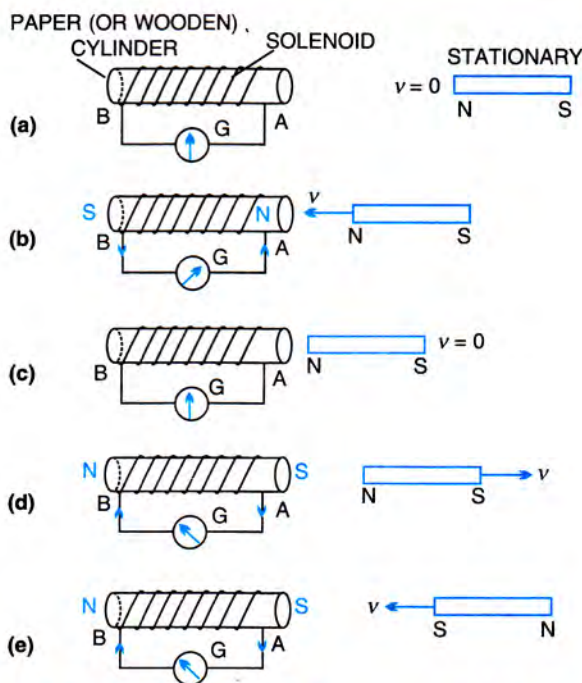

Fig. 10.29 Demonstration of electromagnetic induction
a magnet NS at some distance, along the axis of solenoid as shown in Fig. 10.29.
- (1) When the magnet is stationary ($v = 0$), there is no deflection in galvanometer and its pointer reads zero [Fig. 10.29 (a)].
- (2) When the magnet with its north pole facing the solenoid is moved towards it, the galvanometer shows a *deflection towards right* showing that a current flows in solenoid in the direction B to A as shown in Fig. 10.29 (b).
- (3) As the motion of magnet is stopped, the pointer of galvanometer comes to zero position [Fig. 10.29 (c)]. This shows that *the current in solenoid flows as long as the magnet remains moving*.
- (4) If the magnet is moved away from the solenoid, the pointer of galvanometer *deflects towards left* [Fig. 10.29 (d)] showing that the current in solenoid flows again, but now in direction A to B which is opposite to that shown in Fig. 10.29 (b).
- (5) If the magnet is moved away rapidly, the deflection in the galvanometer increases although the direction of deflection remains same. It shows that now more current flows.
- (6) If the magnet is brought towards the solenoid by keeping its south pole towards it, the pointer of galvanometer deflects towards left [Fig. 10.29 (e)] showing that the current in solenoid flows in direction A to B which is opposite to that shown in Fig. 10.29 (b).
In Fig. 10.29 (b), when north pole of the magnet is brought towards the end A of solenoid, the induced current flows in solenoid in direction B to A *i.e.*, at the end A, the current is anticlockwise, so the end A of solenoid becomes a north pole to repel the magnet. Thus it opposes the motion of north pole of magnet towards the solenoid which is the cause of producing it.
Similarly, in Fig. 10.29 (d), when north pole of magnet recedes from end A of the solenoid, the direction of induced current in the solenoid is from B to A *i.e.*, it is clockwise at the end A, and it becomes the south pole so as to oppose the motion of north pole of the magnet away from the solenoid which is the cause of producing it.